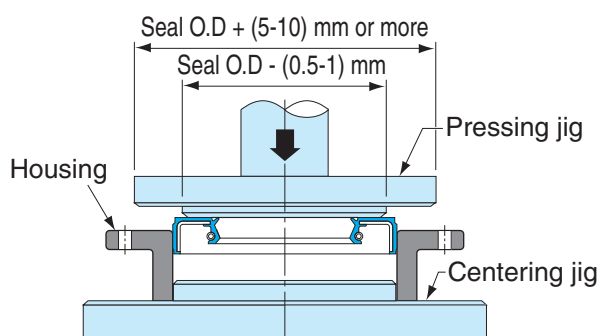
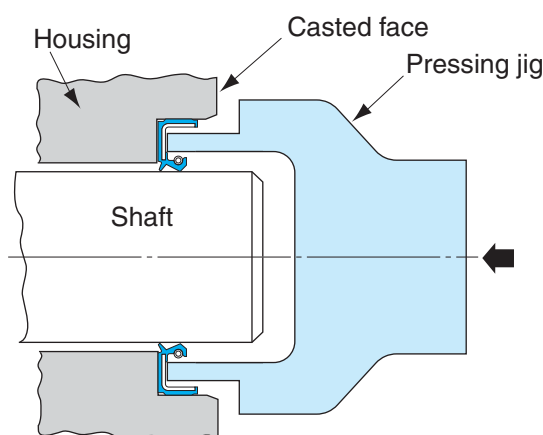

Fig. 1.7.3 Recommended seal press-fitting jigs
Fig. 1.7.4 Seal press-fitting jig for shouldered housing bore in the opposite direction
- 6) When seal is pressed into housing bore, use pressing jig as shown in Fig. 1.7.3. When press-fitting an oil seal into the housing bore in the opposite direction, use the pressing jig as shown in Figs. 1.7.4 and 1.7.5.
Seal press fit at a slant may cause the fit surface to have tear or scuffing and leakage. To ensure good sealing performance, seals need to be mounted at right angles to shafts. For right angled mounting, press the seal down thoroughly to reach the housing shoulder (Fig. 1.7.4).